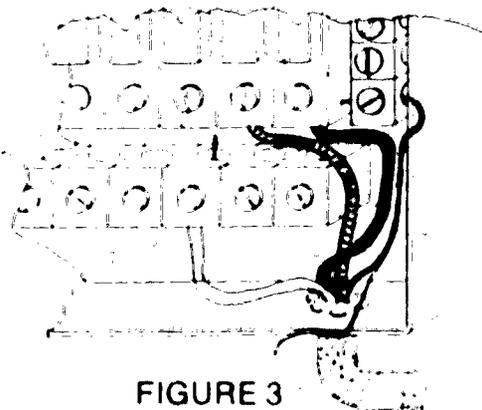

FIGURE 3
M. Connect ungrounded conductor to appropriate overcurrent devices (Figure 3)